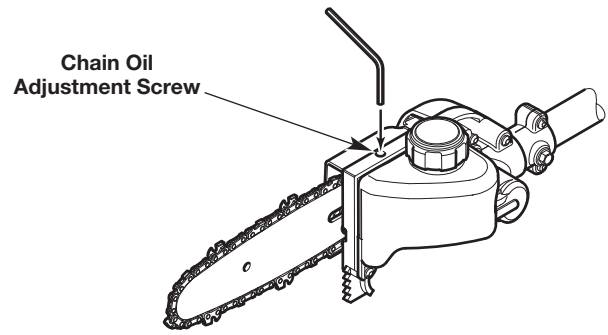

Fig. 17
1. Insert a 3/32-inch Allen wrench into the chain oil adjustment screw (Fig. 17).